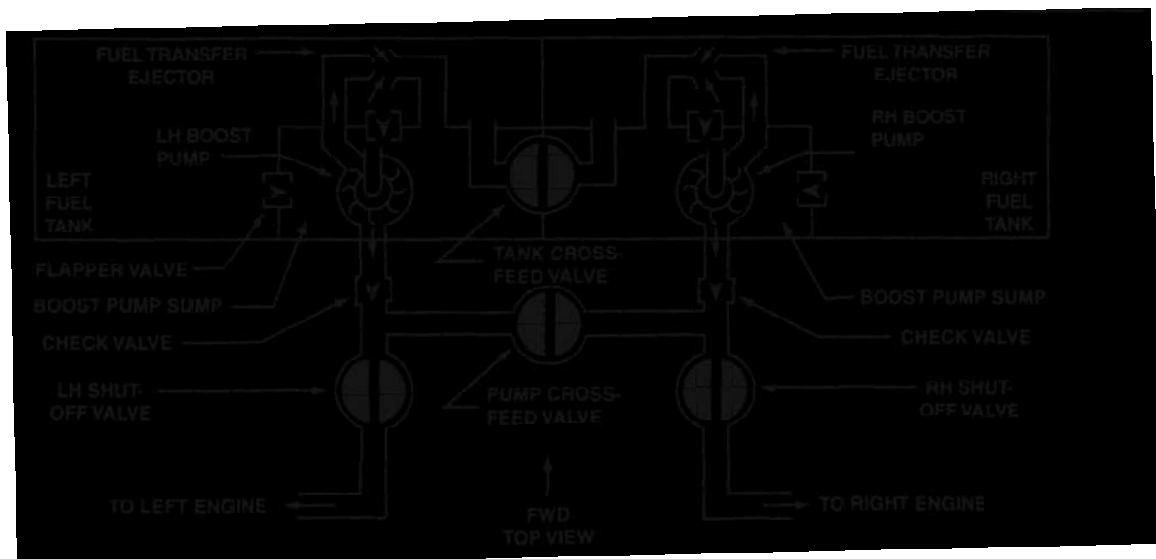

Figure 9.40 Fuel System
9. (Refer to figure 9.40) What is the purpose of the pump crossfeed valve?